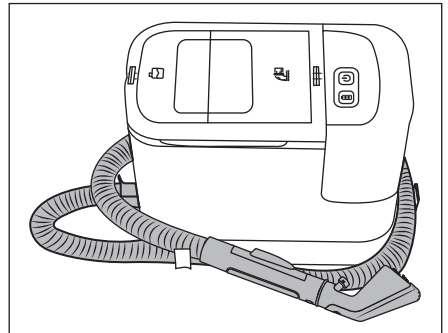

Fig. 10
- ⓘ **Note:** (1) Empty the fresh water tank 2 10 if you are not going to use the appliance for a long period. (2) Always clean the appliance before storage. Please refer to the description in the section **Cleaning and care**.
- ◆ Pull the hose holder 15 out of the appliance. Place the spray/suction hose 19 around the appliance using the hose holders 15/16 (see Fig. 10).